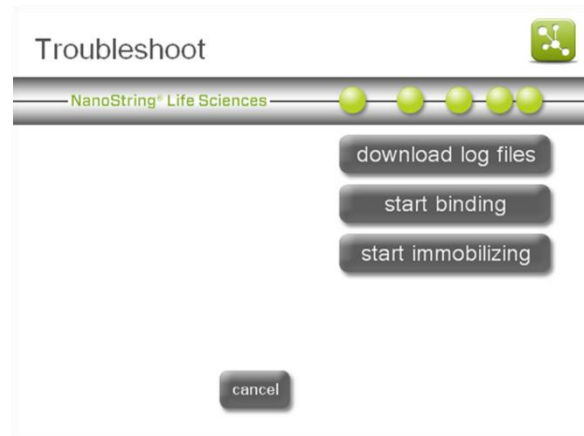
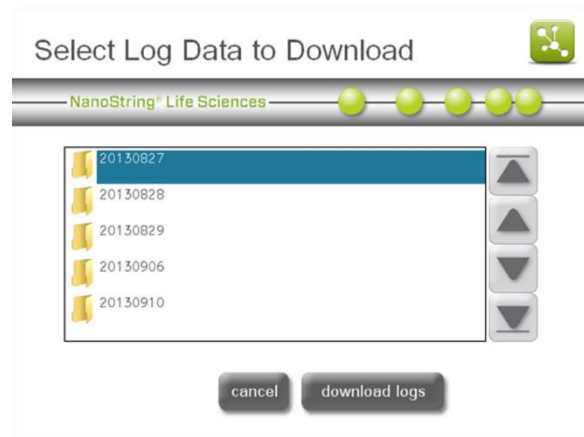

Figure 128: The Troubleshoot Menu.
Figure 129: The 'Select Log Data to Download' screen.
In the event of technical difficulties, NanoString support staff will ask the user to download and e-mail log files to them for diagnosis of the issue. To access the Troubleshoot Menu, press **troubleshoot** on the Maintenance Menu (**Figure 107**). The Troubleshoot Menu (**Figure 128**) is used to gain access to the screen where files can be selected for download. Users also have the option to run specialized procedures that may assist in recovering failed runs.
Access log files by pressing **download log files** on the Troubleshoot Menu (**Figure 128**). Log files are labeled with the date of each run. Multiple folders may be selected for download by touching them (**Figure 129**). Selected folders will be highlighted in blue.
1. To initiate the surface binding protocol recovery workflow, press **start binding** on the Troubleshoot Menu (**Figure 128**).
1. To initiate the 'Surface Immobilization Protocol Recovery' workflow, press **start immobilizing** on the Troubleshoot Menu (**Figure 128**).